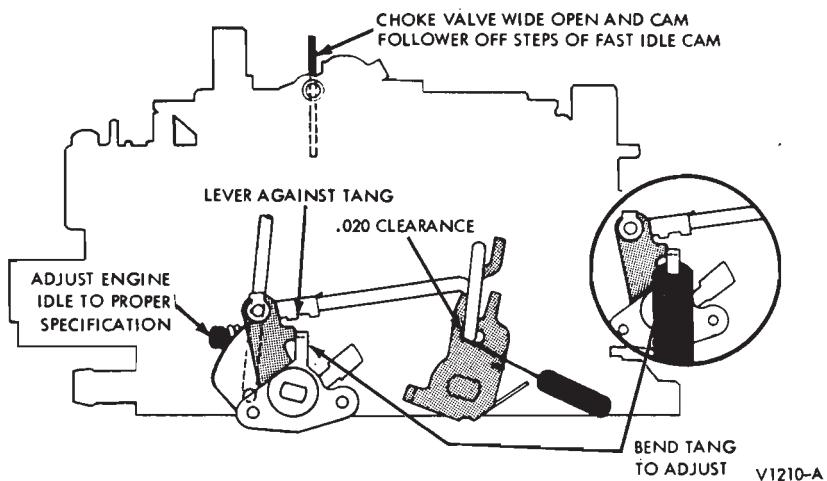

FIG. 10—Secondary Throttle Closing Adjustment
2. There should be 0.020-inch clearance between the actuating link and the front of the slot in the secondary lever when the tang of the actuating lever on the primary shaft is against the pin (Fig. 10).